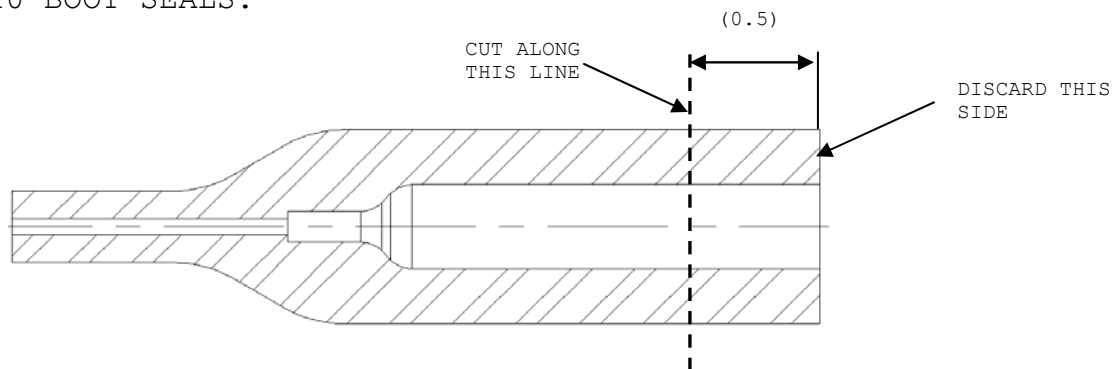

FIGURE 5: DIMENSIONS FOR MODIFIED BOOT SEAL
- 6.15 OBTAIN P/N 1050251 BOOT SEAL. CUT 0.5 ± 0.025 INCH OFF BY COMPLETELY CUTTING THROUGH THE CROSS-SECTION OF THE SOLDER POT SIDE (LARGER DIAMETER SIDE) OF THE BOOT SEAL. REFER TO FIGURE 5 FOR GUIDANCE. REPEAT THIS PROCESS FOR A TOTAL OF 10 BOOT SEALS.